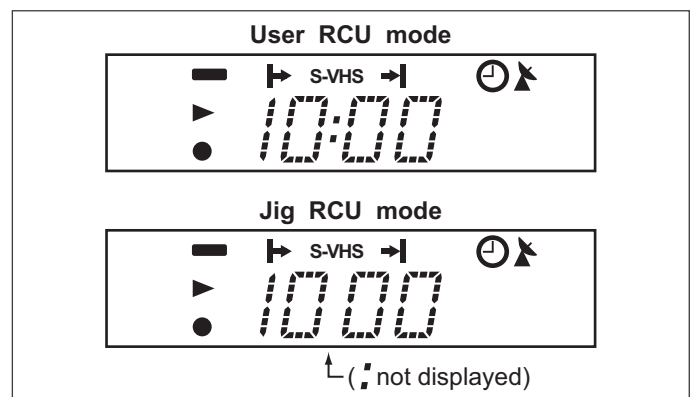

Fig.2-5-1a User/Jig RCU mode
- (1) Unplug the power cord plug from the power outlet.
- (2) Press and hold the "REC" and "PAUSE" buttons on the VCR simultaneously, while plugging the power cord plug into the power outlet. When the VCR is set to the Jig RCU mode, the symbols (" : ") in the time display of the FDP are turned off. (Refer to Fig.2-5-1a)